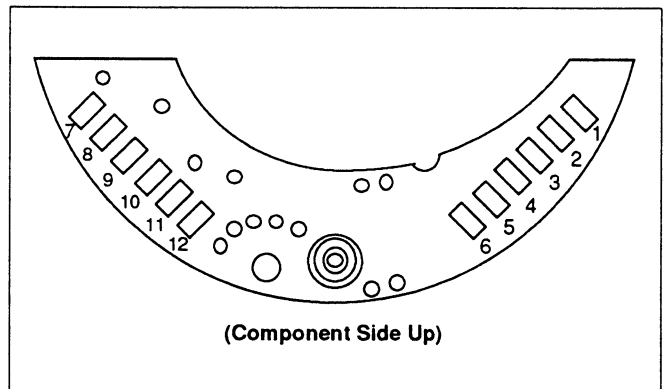

FIGURE 3-1. Header Board Connections.
1. Carefully pull the header assembly board (16) off of the post connectors. Rotate the board 180 degrees about the axis formed by the connecting leads. The sensor module and electronics housing can remain attached for checkout.
2. Check internal diode loops, forward and reverse bias: one loop is on pins one and two, the other is on pins three and four. See Figure 3-1.
Transmitter Electronics Connections	Check for shorts in sensor leads. Make sure post connectors are clean and check the sensor connections. Check that post connector #8 is properly grounded to the case. See Figure 3-1.
Transmitter Electronics Connections	Check for intermittent shorts or open circuits. Make sure post connectors are clean and check the sensor connections. Check that post connector #8 is properly grounded to the case. See Figure 3-1.
Transmitter Electronics Connections	Check to see that calibration adjustments are in control range. Check for shorts in sensor leads. Make sure post connectors are clean and check the sensor connections. Check that post connector #8 is properly grounded to the case. See Figure 3-1.